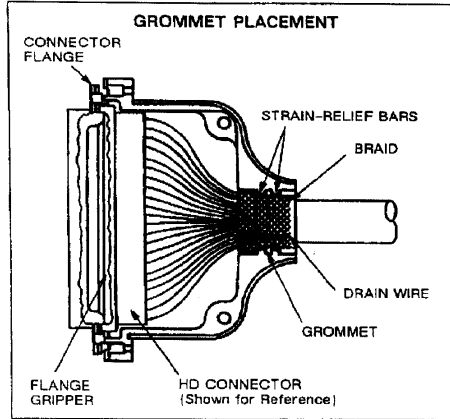

Fig. 12
7. Position one half of cable clamp on cable and connector. Ensure that flange of connector is behind flange gripper of clamp and that grommet edge is positioned against inner strain relief bar of cable clamp (see Figure 12).